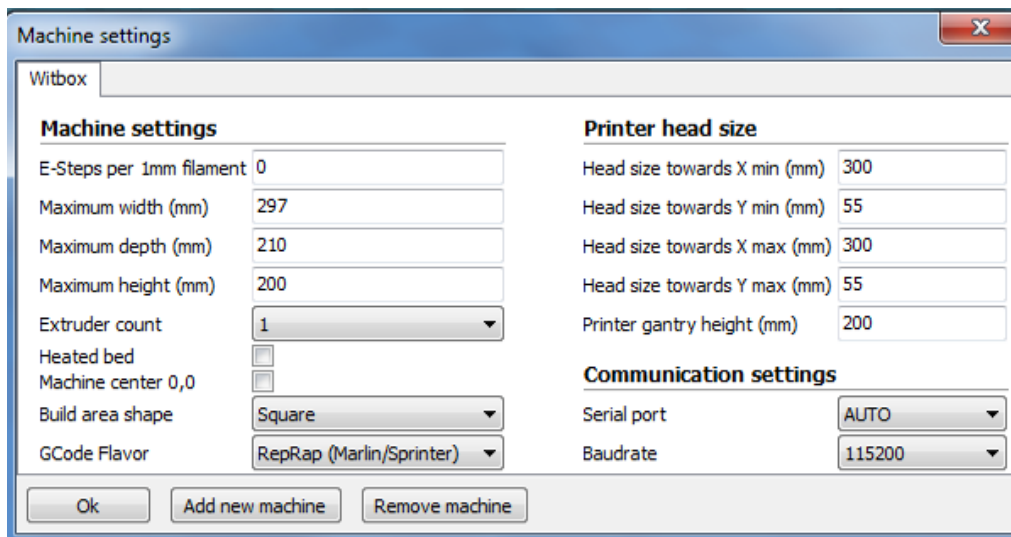

Figure 4.14 Main printer menu
- 3 Access the main menu and go to **Machine > Machine Settings**. In the **Communication Settings** section, select any of the COM ports shown (COM 1, COM 2, COM 3, etc.) as the serial port. In the **Speed** section, select 115200 (fig. 4.14).